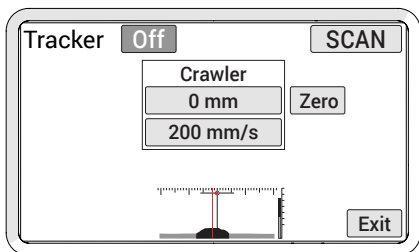

Fig. 36 - Tracker screen
**On/Off Button:** (Fig. 36) Activate or turn off the tracking function. When the button is greyed out, this indicates a weld has not been detected and tracking is unavailable.